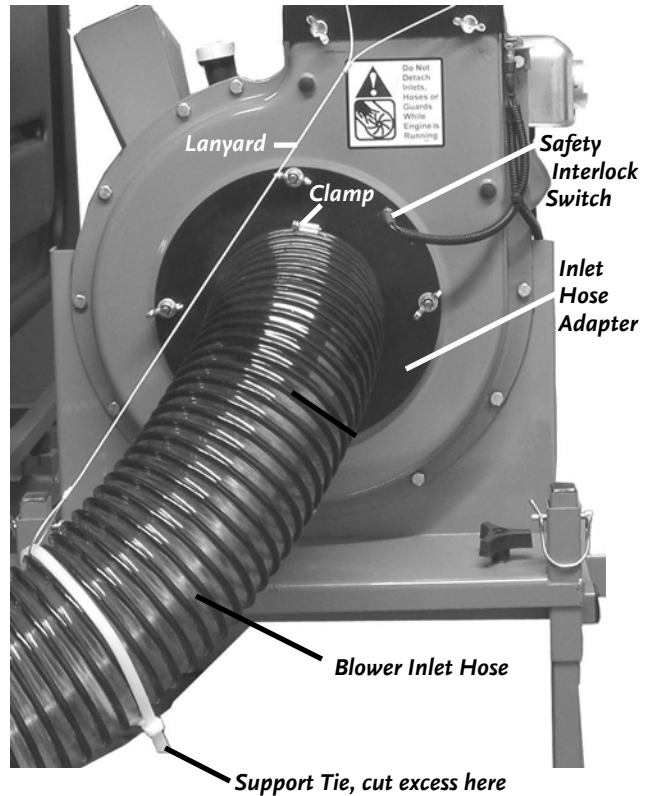

Figure 44
1. Cut the Support Tie around the Blower Inlet Hose (**Figure 44**).
2. Loosen the Clamp retaining the Inlet Hose at the Inlet Hose Adapter and the Connector Fitting at the opposite end of the Hose. Then slip the Hose off the Adapter and Fitting (**Figure 44**).
5. Install a new Support Tie, through the Lanyard and around the Inlet Hose about half way along the Hose. Cut off excess Support Tie (**Figure 44**).
<p>The engine won't start manually.</p> <p>(Please refer to the Engine Owner's Manual for engine-specific procedures.)</p>	<ul style="list-style-type: none"> ⇒ Check that the spark plug wire is attached. ⇒ Check the oil and gas level. See page 26. ⇒ Are you using fresh, clean gas? If the gas is old, change it. Use a fuel stabilizer if you keep gas longer than one month. ⇒ Check the Throttle adjustment and travel. See page 27. ⇒ Is the spark plug clean? If the spark plug is dirty or cracked, change it. If it's oily, leave it out, hold a rag over the plug hole and pull the recoil cord several times to blow out any oil in the cylinder, then wipe off the plug and reinsert it. ⇒ Check that the Safety Interlock Switch is depressed. See page 18 Figure 14 and page 41 Figure 44. ⇒ If your engine still won't start, call 1(800) DR-OWNER (376-9637) for assistance.